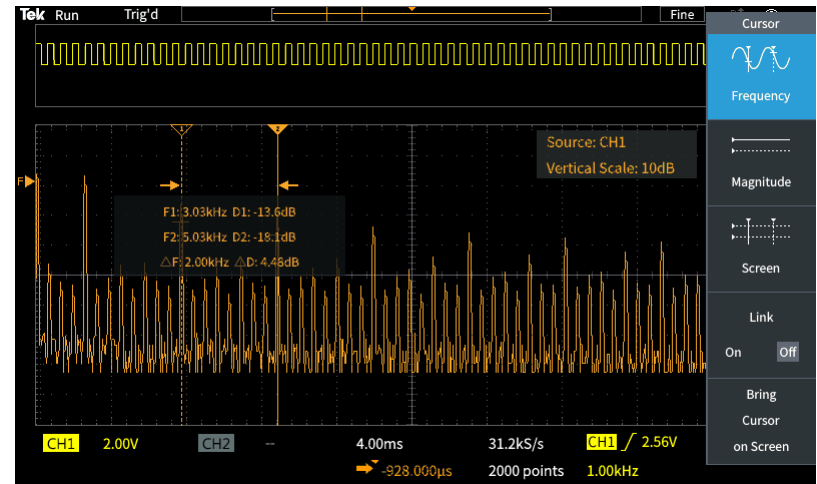

Figure 16. Delta frequency between the 3rd and the 5th harmonic is around 2kHz
10. Press the **Cursor** button and position the cursors on the third and fifth harmonic frequencies (Figure 16).